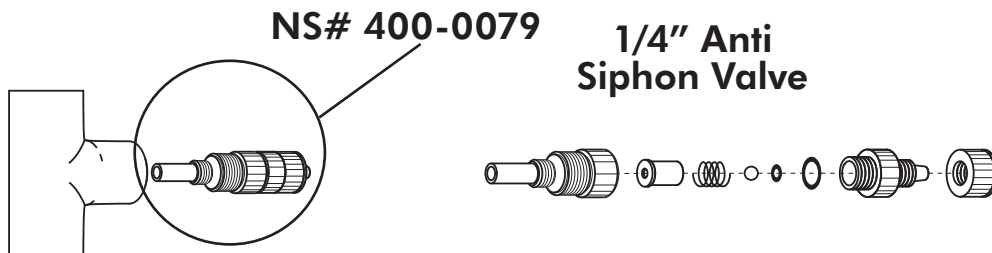

FIG. 4.8
- ☒ Periodically clean the injection/check valve assembly, especially when injecting fluids that calcify such as sodium hypochlorite. These lime deposits and other build ups can clog the fitting, increase the back pressure and interfere with the check valve operation. See section 4.3.4. Fig. 4.8.